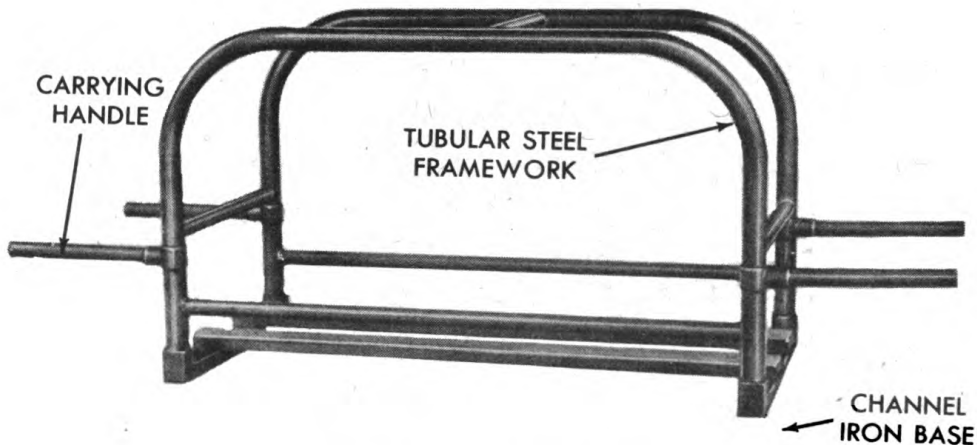

Figure 6—Carrying Frame
e. **Carrying Frame.**—The carrying frame (figure 6) consists of channel iron and tubular steel, welded together to form a sturdy, compact base and framework, on which the engine and pump are mounted. It is equipped with movable carrying handles which may be turned out of the way, when storing.